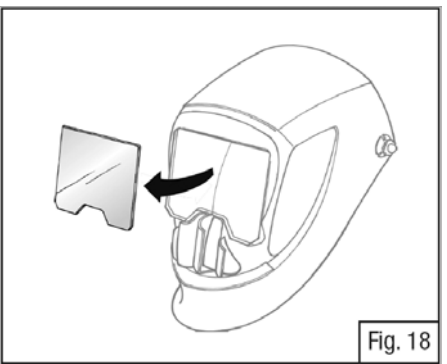
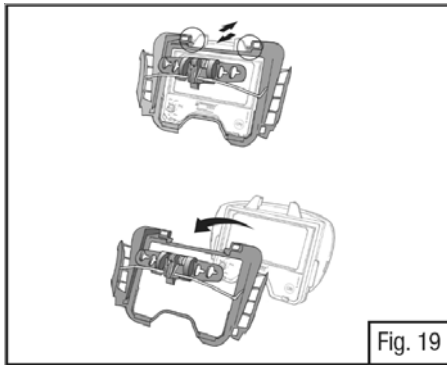

Fig. 18
Fig. 19
- To remove the FlexView middle helmet panel, pull one of its upper corners away from the helmet (Fig 18). The FlexView protection plate can then be removed for replacement (Fig 19).